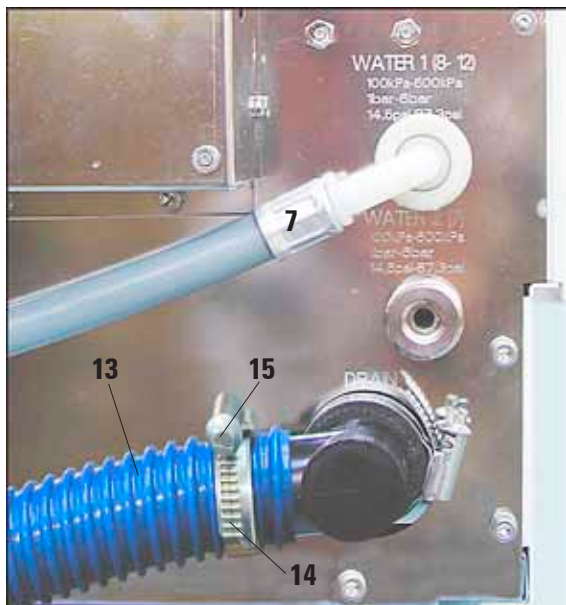

Fig. 9
- Outlet connection piece (10) can be turned to point into different directions, depending on whether the drain water pipe is located to the left or to the right of the instrument.
- To adjust the connection piece, loosen screw (11) of hose clamp (12) sufficiently so that the connection piece (10) can be turned. Adjust the connection piece as desired (always with the opening pointing slightly downwards) and retighten screw (11).
- Turn screw (15) to the left (use screwdriver) until hose clamp (14) opens wide enough to be slid over waste water hose (13).
- Fit waste water hose (13) onto outlet connection piece (10) and position hose clamp (14) as shown in Fig. 9.
- Turn screw (15) to the right until hose (13) is secured tightly on connection piece (10) by hose clamp (12).
- Insert waste water hose (13) into drain pipe and secure in position.